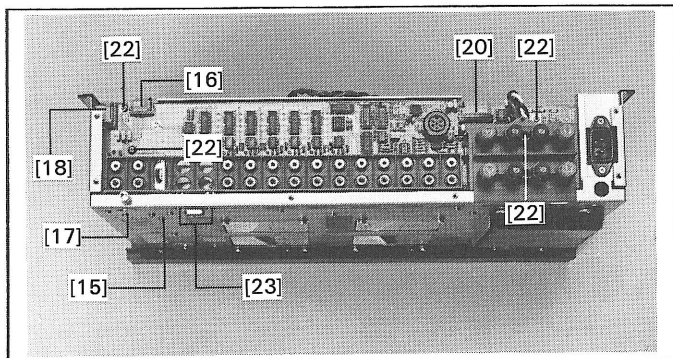

Fig.2.6
- Unfasten 1 screw (17) on the bottom (Fig. 2.6).
- Separate the plug connection (18) to the INTERCONNECTION UNIT board.